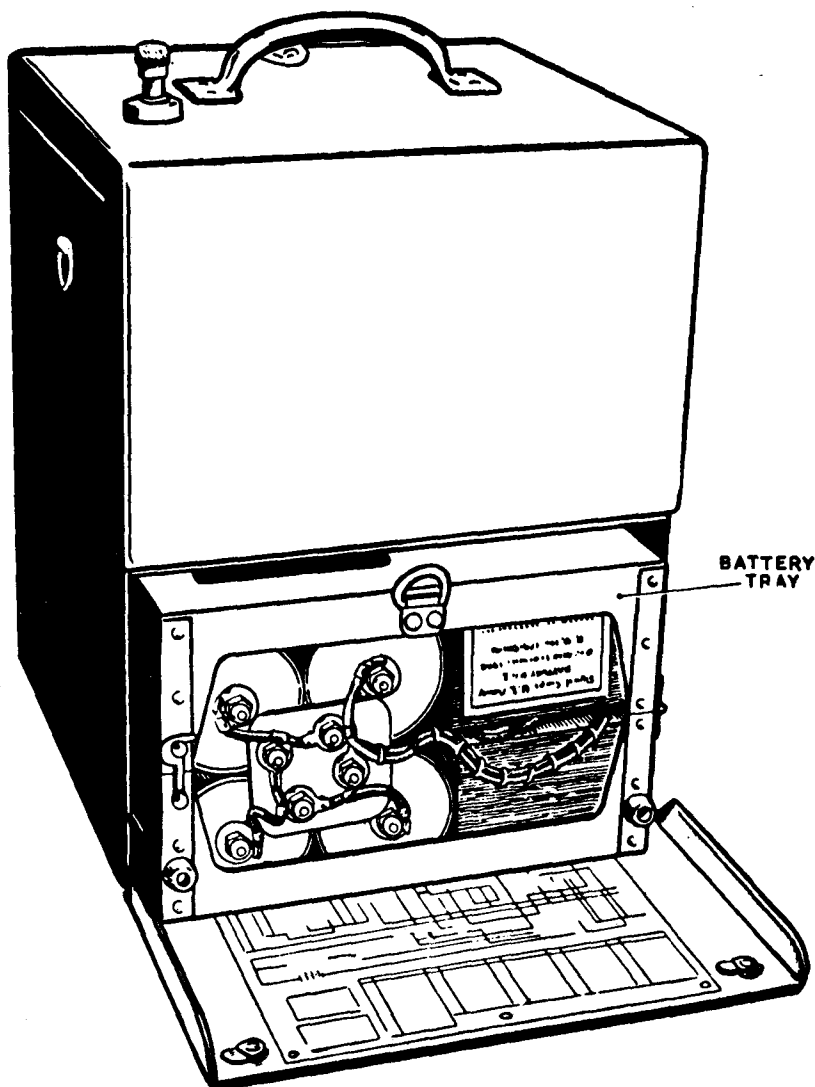

Fig. 1. Frequency meters listed in para. 4.
4. The BC-221-B and -Q may have either metal or wooden cabinets, but all the above instruments have aluminium battery trays or chassis (*fig. 1*). To install the power unit:—